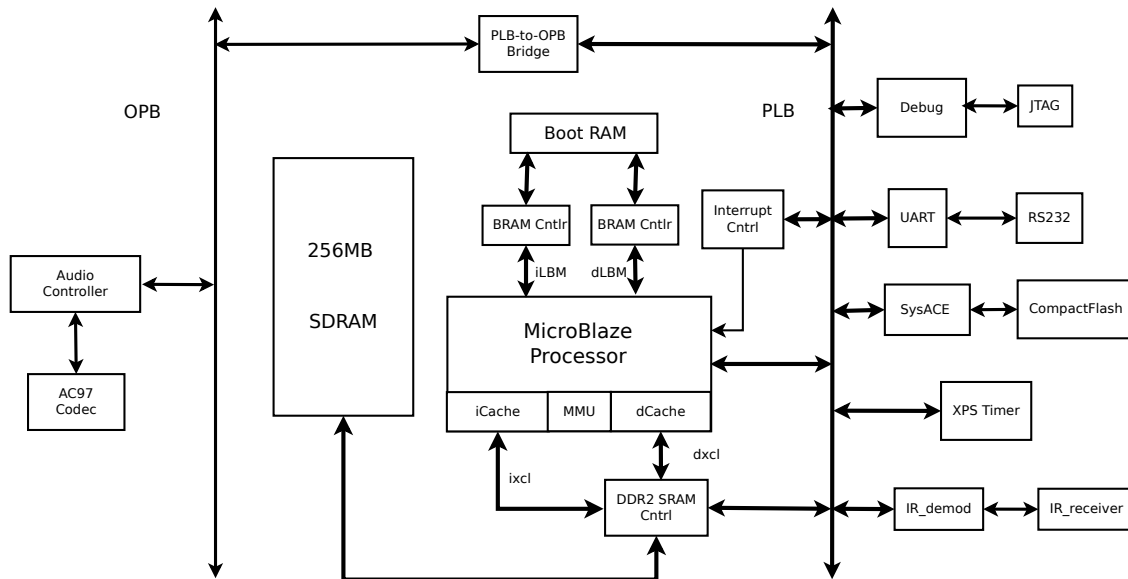

Figure 1: Hardware/Software System Diagram
The Linux compliant hardware system that you will create in lab this week is depicted in Figure 1. One of the notable features of this system is the use of two peripheral buses. In order to make use of the existing Xilinx audio controller, our system must include an On-chip Peripheral Bus (OPB). The OPB is a standard interconnect for low-bandwidth peripherals. As there is no direct connection between the MicroBlaze processor and the OPB bus, your system must include a PLB-to-OPB bridge. The bus bridge allows the MicroBlaze to address peripherals on the OPB seamlessly as though they were attached directly to the PLB. Thus, XPS must ensure peripheral addresses on the OPB do not overlap with those on the PLB.
2. At this point, you should have a working ir_demod peripheral with interrupt capabilities. The following steps with help you create the system depicted in Figure 1.
3. With the hardware system from Figure 1 built, it is now time to write a device driver for our IR-remote demodulation hardware. Unlike the device driver you created in Lab 6, this device driver will utilize the interrupt signal added in Section 1 of the lab procedure. When using the Linux OS, most of the work for handling the interrupt is done for you. As a driver developer, you are only responsible for providing the usual read, write, open, close, init, and exit functions along with an additional routine referred to as an interrupt handler. The interrupt handler routine as the name suggests is the routine the OS calls when your hardware interrupt triggers.